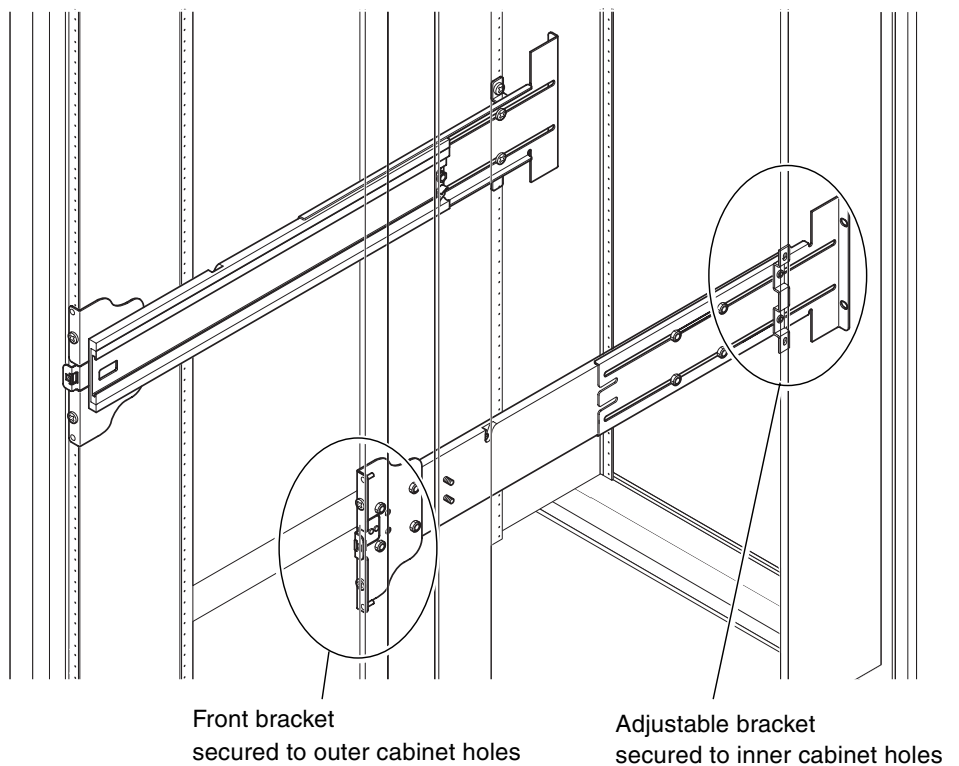

FIGURE 1-4 Installing the Rails in a Sun Fire Cabinet
1. **Insert the pins in the front bracket into cabinet holes 22 and 33 (FIGURE 1-4).**
1. Insert the pins in the front bracket into cabinet holes 58 and 69 (FIGURE 1-4).